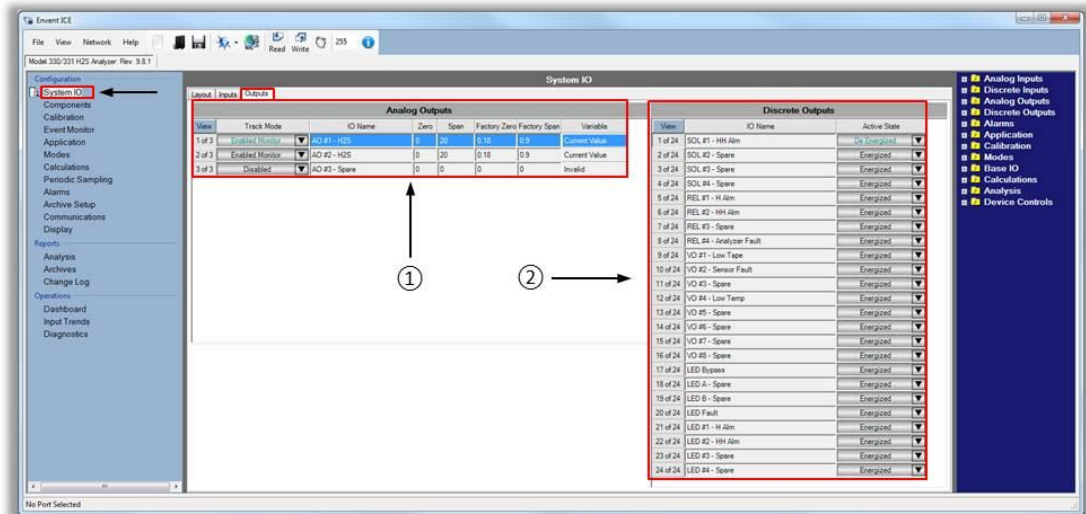

Figure 5. ICE Software: Configuration: System IO Tab: Outputs Tab
In this section of the ICE software, analog and discrete outputs are factory configured. To access the analog and discrete outputs, go to System IO>Output Tab. Refer to Figure 5.
This option allows activating or deactivating the analog output. Refer to Figure 5 area ①
IO Names are names assigned to the analog outputs. The name is up to the user's discretion. Figure 5 area ① shows the analog output names as "H₂S" as default for standard configurations.
These columns refer to the range being measured. Since the variables used for the analog outputs are the analyzer H₂S readings, the zero and span values are 0 to 20 ppm of H₂S (for standard configurations). Refer to Refer to Figure 5 area ①
In this section of the ICE software, discrete outputs are named and their status states are set-up. Refer to Refer to Figure 5 area ②.
IO Names are names assigned to the discrete outputs. The name is up to the user's discretion. Names are set-up according to the analyzer standard factory configuration file. These names are based on what alarm variable they are used for. These discrete output names will appear in the Output Controls column in the Alarm tab section. Refer to Figure 5 area ②.
Active state is the condition the discrete output will have when in alarm. If selected as "De-energized", the discrete output will be fail-safe. Refer to Figure 5 area ②.